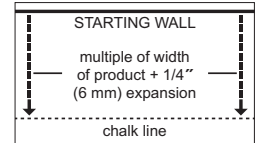

Figure 6
- In at least two places at least 18" (46 cm) from the corner, measure out equal distance from the starting wall (Figure 6) and snap a chalk line. The measurement must be the sum of the width of the flooring plus an additional 3/8" (9.5 mm) to allow for 1/4" (6 mm) expansion space and the width of the tongue. Allow 1/2" (13 mm) expansion when installing floating floors. Continue to Step 3: Staple or Glue or Floating (below).